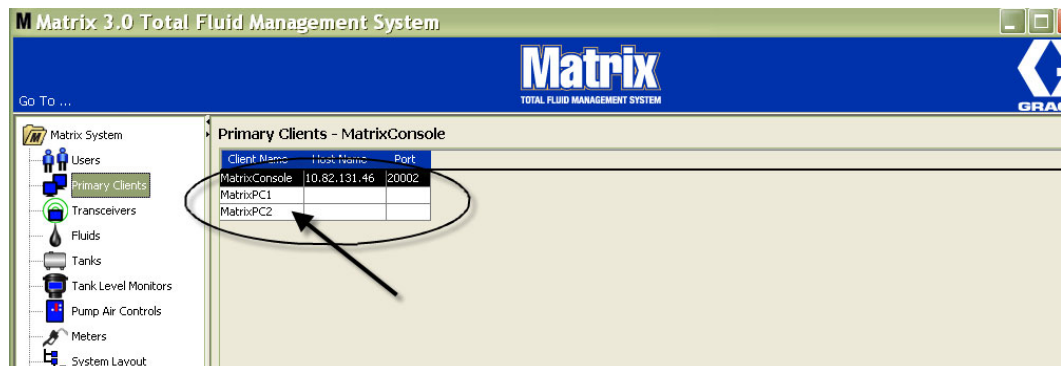

FIG. 81
- The new Primary Client is added to the bottom of the list on the Primary Clients screen (FIG. 81). Note that after entering a new Primary Client name, the name appears with its host name and port fields blank. These fields will be populated automatically the next time the Primary Client connects with the Matrix Service Engine.